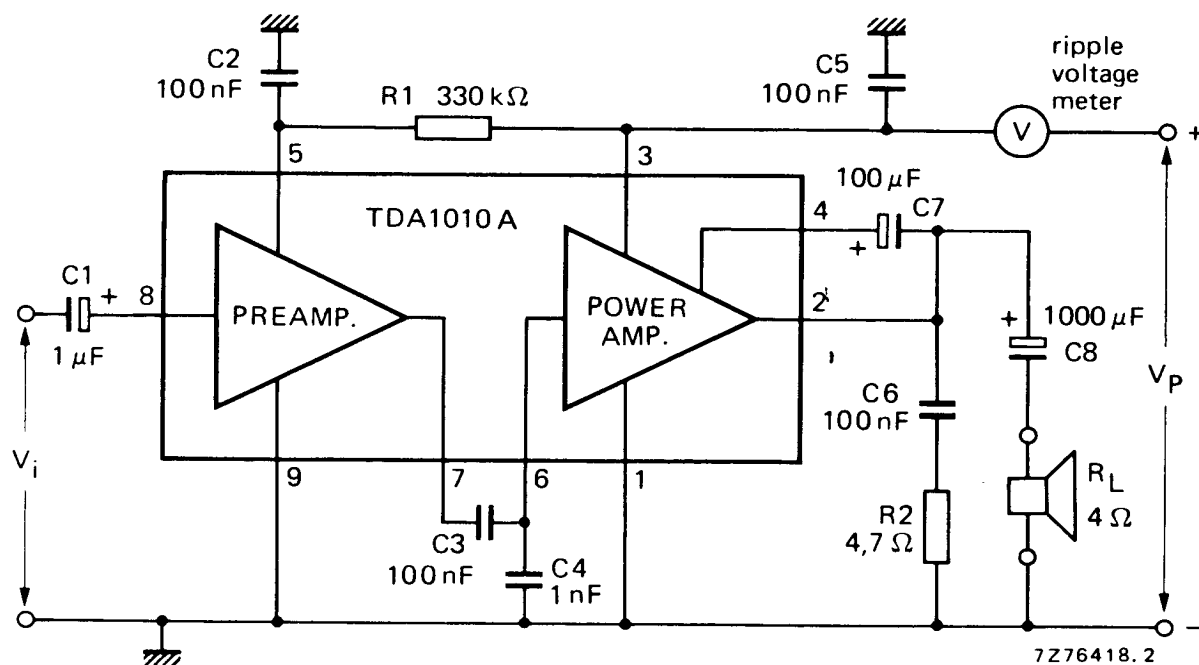

Fig. 3 Test circuit.
$T_{amb} = 25$  °C;  $V_p = 14,4$  V;  $R_L = 4$   $\Omega$ ;  $f = 1$  kHz unless otherwise specified; see also Fig. 3.
Fig. 4 Output power of the circuit of Fig. 3 as a function of the supply voltage with the load impedance as a parameter; typical values. Solid lines indicate the power across the load, dashed lines that available at pin 2 of the TDA1010.  $R_L = 2 \Omega (1)$  has been measured with an additional  $220 \Omega$  bootstrap resistor between pins 3 and 4. Measurements were made at  $f = 1 \text{ kHz}$ ,  $d_{\text{tot}} = 10\%$ ,  $T_{\text{amb}} = 25 \text{ }^\circ\text{C}$ .
Total harmonic distortion in the circuit of Fig. 3 as a function of the output power with the load impedance as a parameter; typical values. Solid lines indicate the power across the load, dashed lines that available at pin 2 of the TDA1010.  $R_L = 2 \Omega (1)$  has been measured with an additional  $220 \Omega$  bootstrap resistor between pins 3 and 4. Measurements were made at  $f = 1 \text{ kHz}$ ,  $V_p = 14.4 \text{ V}$ .
Fig. 7 Total power dissipation (solid lines) and the efficiency (dashed lines) of the circuit of Fig. 3 as a function of the output power with the load impedance as a parameter (for  $R_L = 2\ \Omega$  an external bootstrap resistor of  $220\ \Omega$  has been used); typical values.  $V_p = 14,4\ V$ ;  $f = 1\ kHz$ .